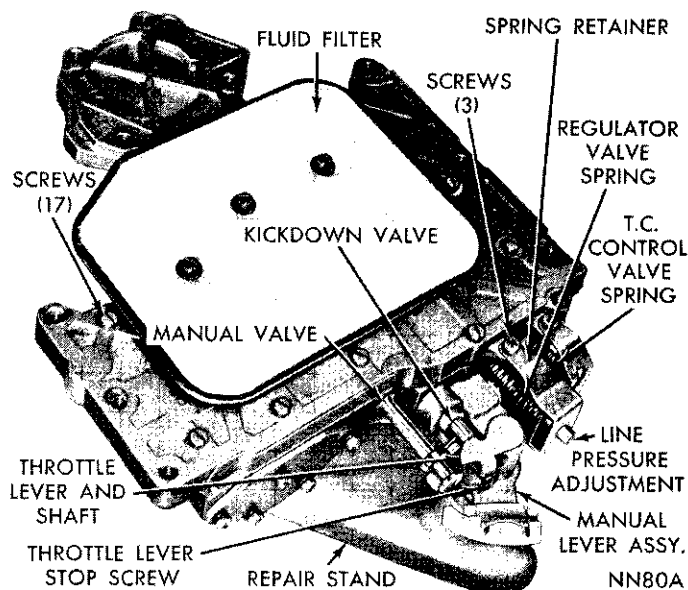

Fig. 41—Valve Body and Control Assembly
(1) Place valve body assembly on repair stand, Tool C-3749, (Fig. 41). Remove three screws from fluid filter and lift off the filter.
(2) While holding spring retainer firmly against the spring force, remove the three bracket retaining screws (Fig. 41).
(3) Remove the spring retainer, torque converter control valve spring, and regulator valve spring with line pressure adjusting screw assembly. **Do not alter setting of line pressure adjusting screw and nut. The nut has an interference thread and does not turn easily on the screw.**
(4) Slide regulator valve out of valve body. Slide torque converter control valve out of valve body.